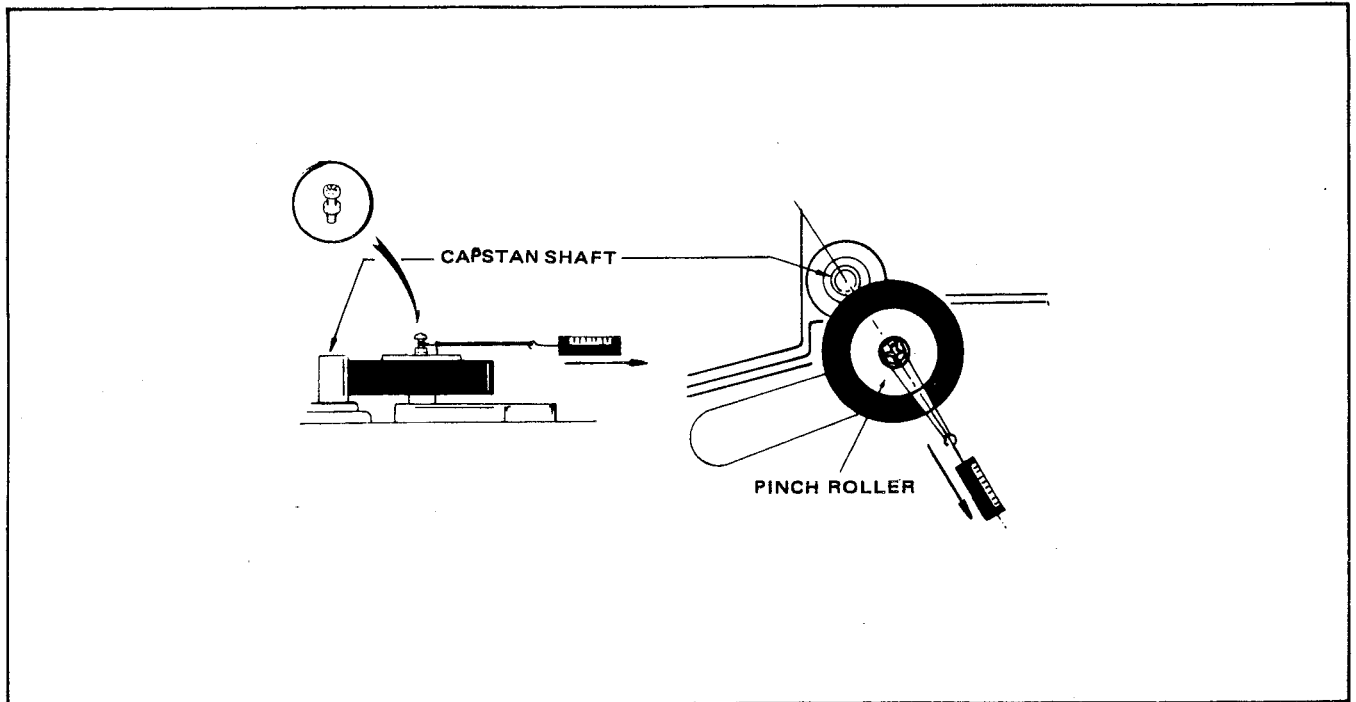

Figure 5-8. Pinch Roller Pressure Measurement
4. Install a screw in the pinch roller shaft and connect a 0 to 5 lb spring scale using a piece of string approximately 30 inches long as shown in Figure 5-8.